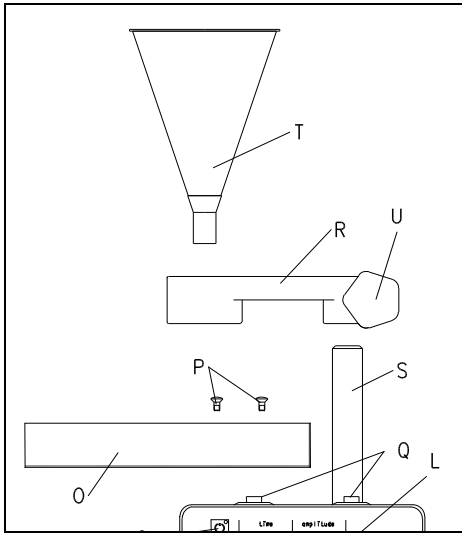

Fig. 4
- \* Insert the countersunk screws **P** in the holes in the feeder channel **O**, see **Fig. 4**.
- \* Set the hopper holder **R** on the mounting rod **S**, see **Fig. 4**.
- \* Insert the feed hopper **T** in the hopper holder **R**, see **Fig. 4**.
- \* Re-tighten the knob **U**, see **Fig. 4**.